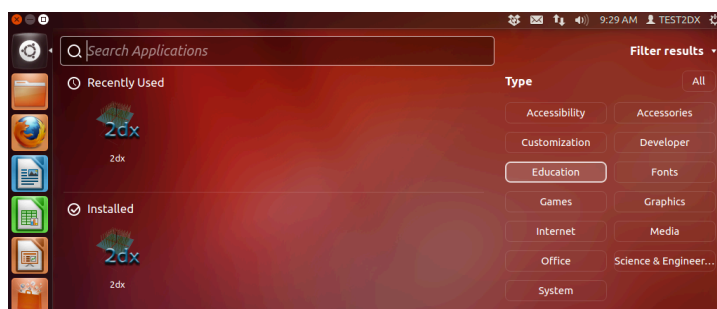

Figure 8: Launching 2dx on Ubuntu
4. After successfully installing 2dx you will find a 2dx-icon under the "Education" menu entry (Figure 8). You now can start 2dx by simply clicking on this icon.